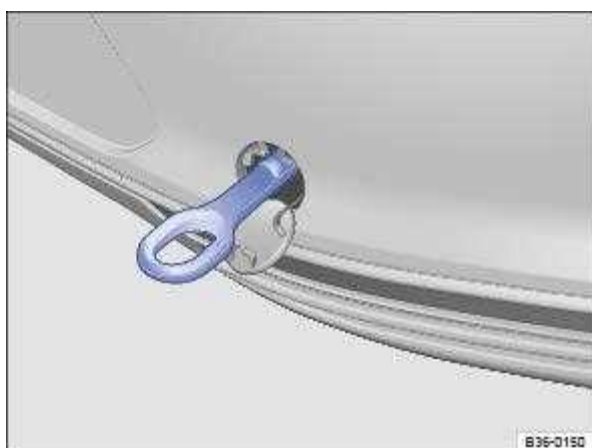

Fig. 179 On the right-hand side of the rear bumper: screwed-in towing eye.
- ☐ Turn the towing eye clockwise into the mounting ⇒ Fig. 179 and tighten as far as it will go ⇒  . Use a suitable object to screw the towing eye fully and securely into the mounting.